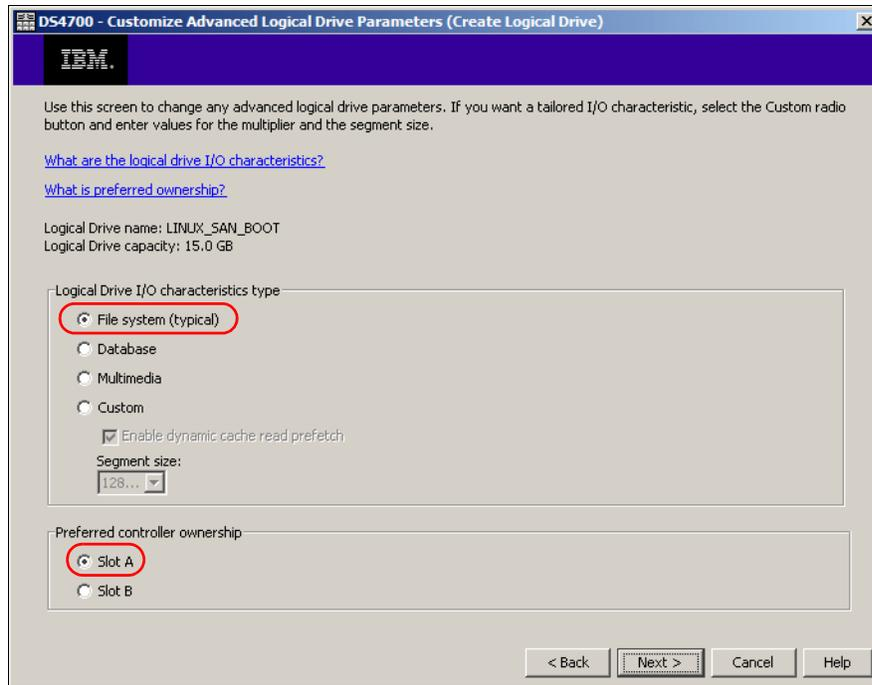

Figure 10-50 Customized Advanced Logical Drive Parameters
3. Customize I/O characteristics and controller ownership of the logical drive, as shown in Figure 10-50. Select **File system (typical)** for logical I/O characteristic type, and select **Slot A** for preferred controller ownership. This is because only controller A is currently connected and zoned with the server's first HBA (through the SAN switch) at this stage.